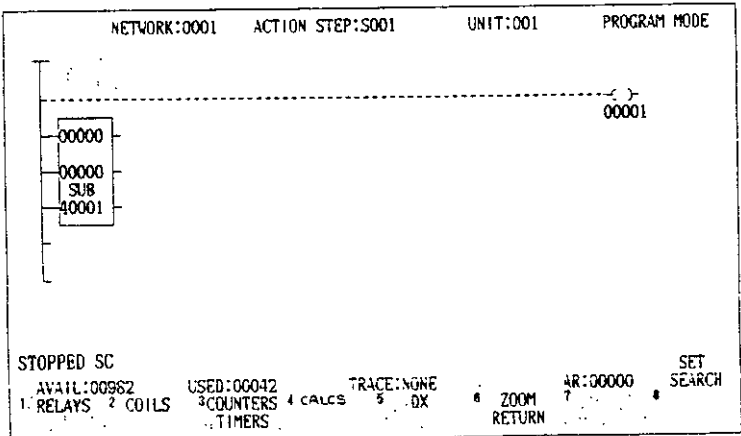

Fig. 5.103
4. To return to the SFC screen from the display of Fig. 5.103 or 5.104, depress ZOOM